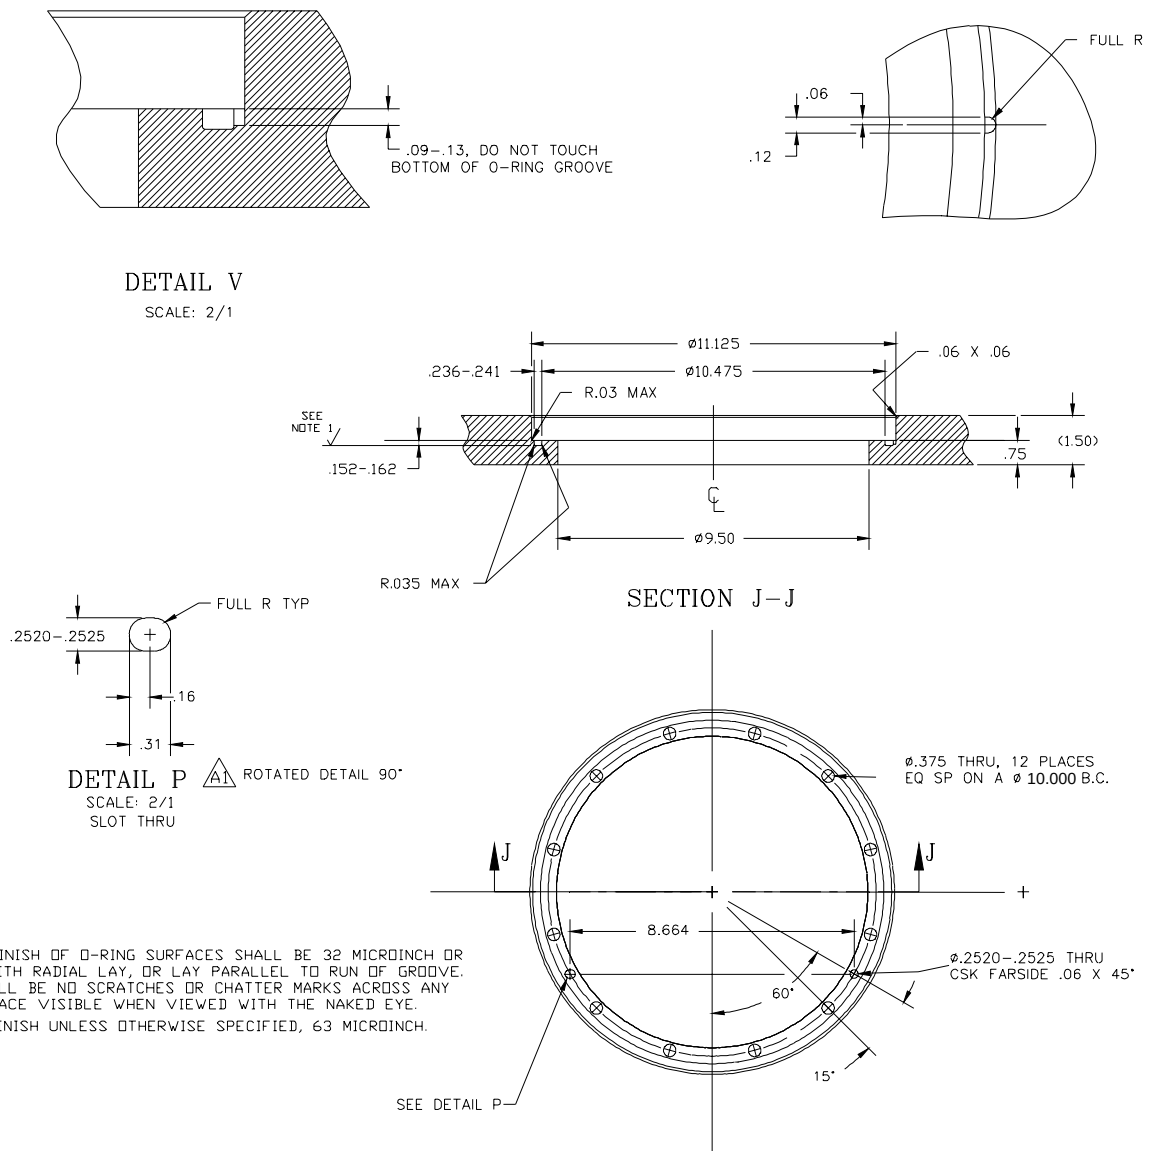

Figure 3-3: Top Mount Details
Refer to **Figure 3-3** for detailed dimensions and finish specifications for top mounting the robot.
2. Ensure that all surfaces are properly finished per notes in **Figure 3-3**.